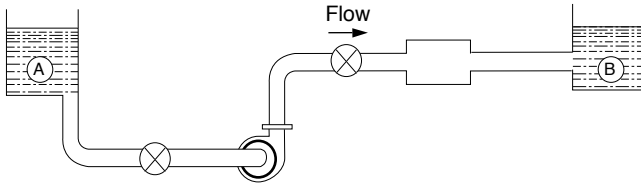

FIGURE 50. Simple Pump System
- Once the capability of the pump has been derived, consideration can be given to the requirements of the system in which the pump is installed. Figure 50 shows a very simple system.